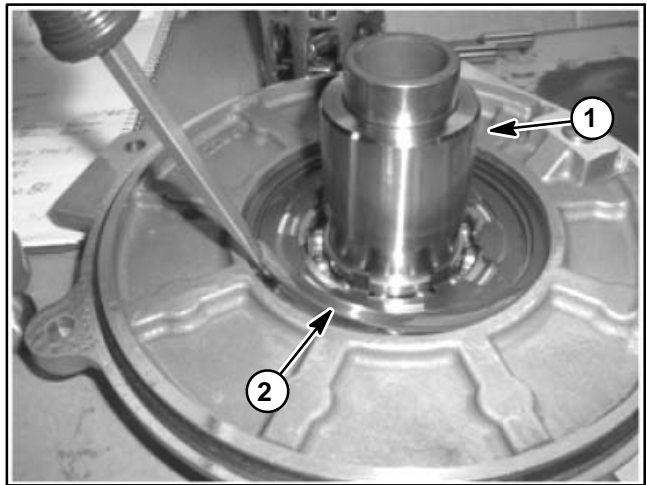

Figure 18
13. Using a screwdriver, carefully remove the internal retaining ring from the cover plate (Fig. 18).